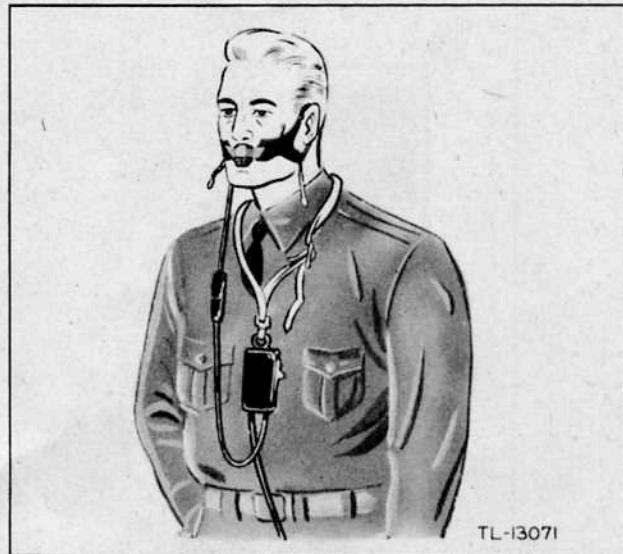

Figure 19. Microphone T-45 in use.
a. To prepare Microphone T-45 for operating, hang the microphone in front of the lips in accordance with figure 19, using the harness attached to the microphone. Adjust the harness for comfort. Hang the strap of Cord CD-318-A around the neck, supporting the switch at a convenient place on the chest of the operator. Connect the plug of Microphone T-45 to the corresponding receptacle on Cord CD-318-A, and insert the plug of Cord CD-318-A into the MIKE jack of the transmitter.